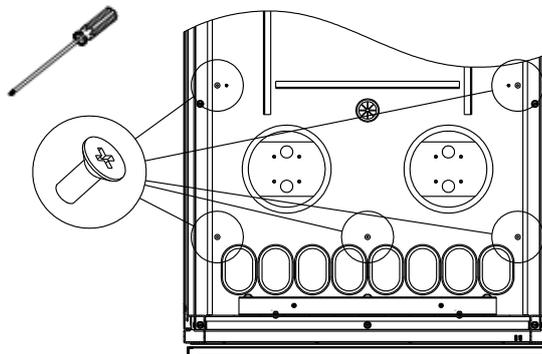

Figure 2-13 Fixing ECO fan module
2) Install the 5 PCs of M4x10 screws in the cabinet to fix the ECO fan module, as shown in Figure 2-13.